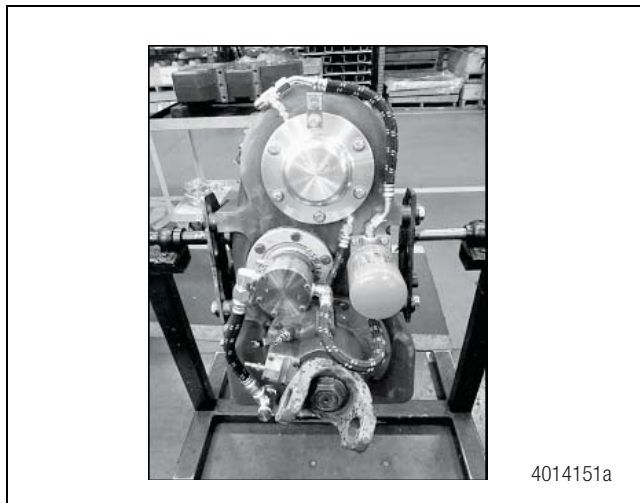

Figure 5.1
3. Mount the transfer case in a suitable fixture. The fixture should be such that the case can be rotated so that either its front or its rear is facing upward. A transfer case mounted in a typical fixture is shown in Figure 5.1.